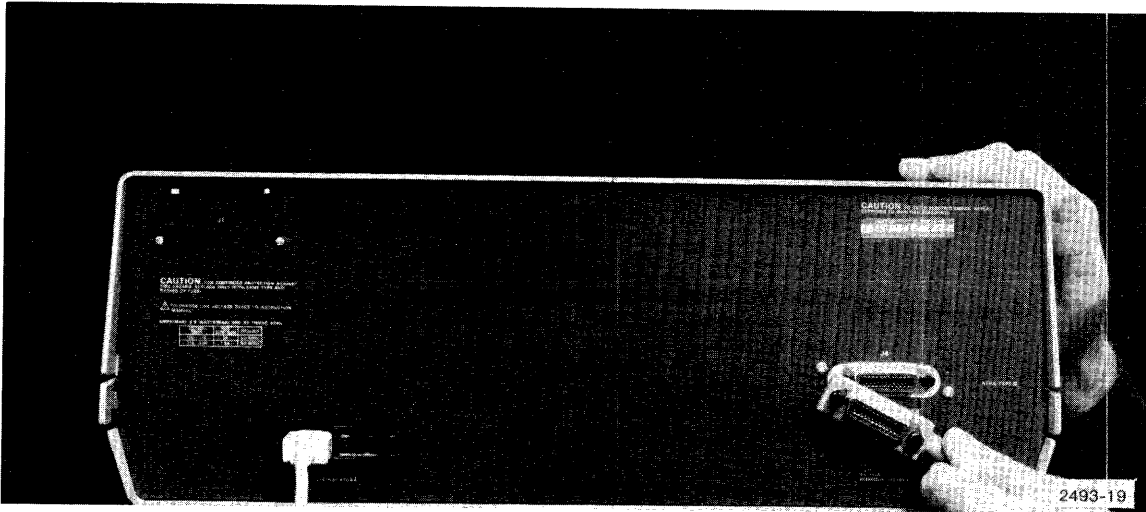

Figure 3-16. Connecting GPIB cable to rear of main 4907 cabinet.
2. Connect the GPIB cable from the rear of the Graphic system to the rear of the main 4907 cabinet (Figure 3-16). Use attached screws to secure the connector. If another GPIB cable is already attached, attach the new cable connector over the top of the current cable connector.